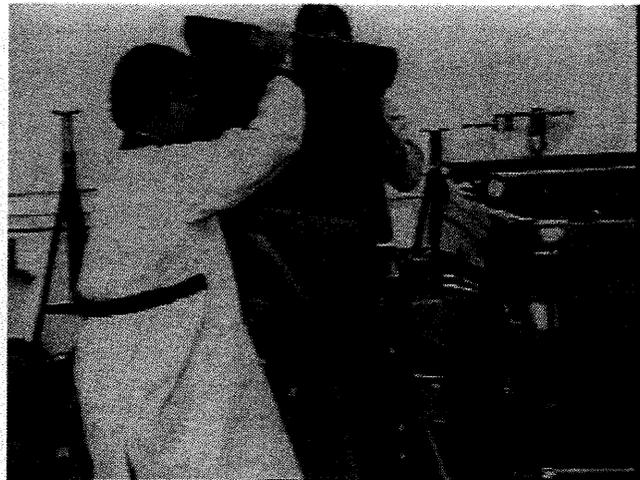

Figure 10
1. Lift hopper assembly and tip slightly forward. See Figure 10.